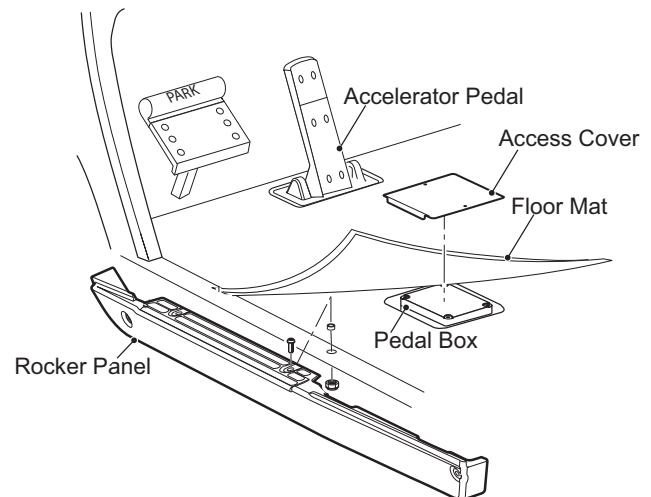

Fig. 1 Access to Pedal Box
3. Remove the access cover from the floor (Ref Fig. 1).